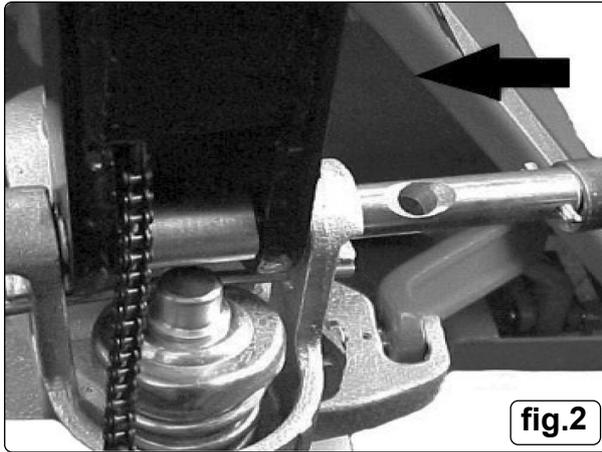

fig.2
- 4.1. Insert the tiller arm (1) into the pump piston, then use a hammer to insert the axle with hole into the hydraulic pump and tiller, arm from right to left (fig.2).